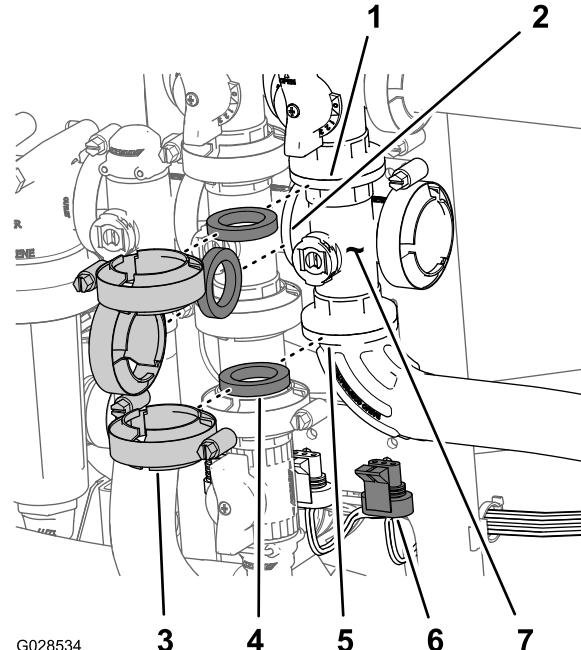

Figure 92
- Remove clamps and gaskets that secure the manifold for the master boom valve (Figure 92) to the master boom bypass valve, agitation valve, and 90° flanged elbow (at the end of the hose for the flow meter).